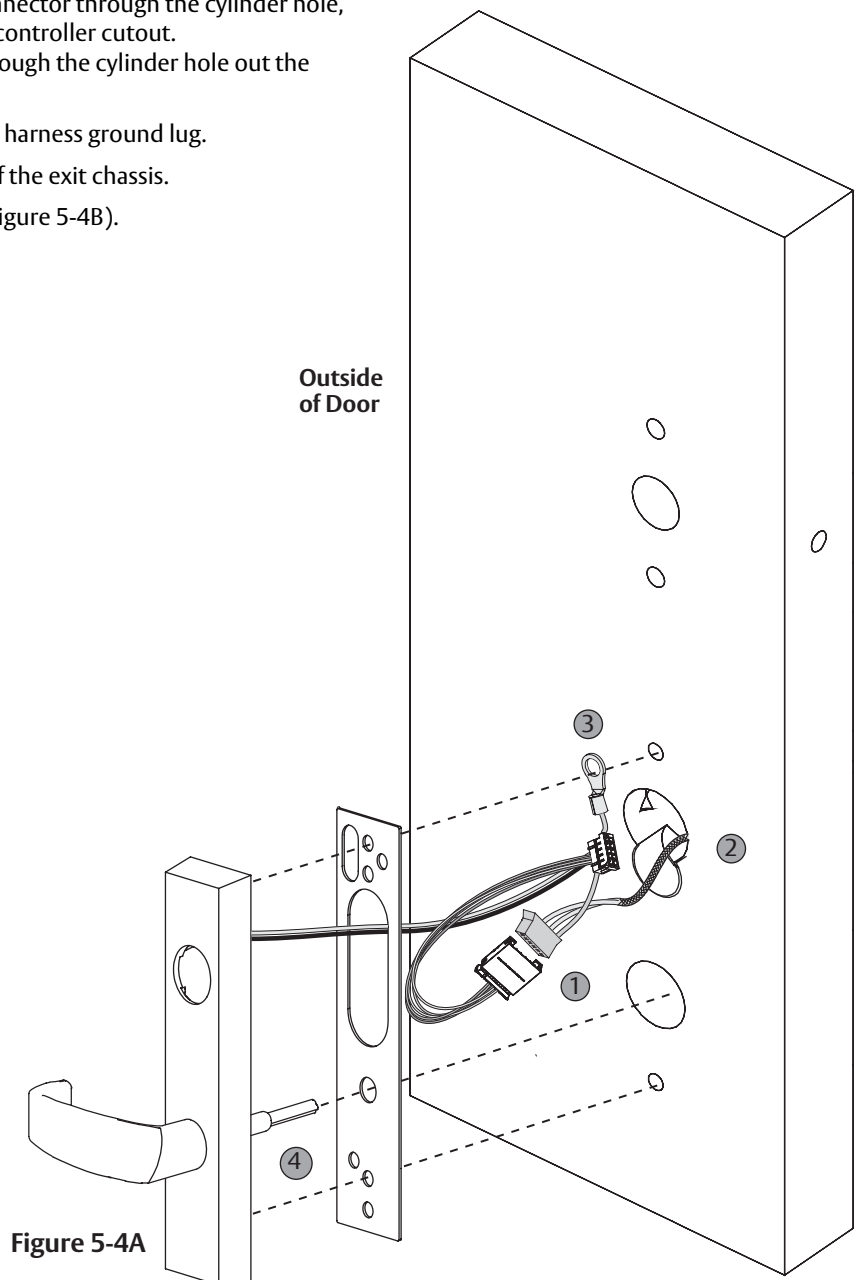

Figure 5-4A
1. Connect motor harness adapter to chassis harness connector (Figure 5-4A).